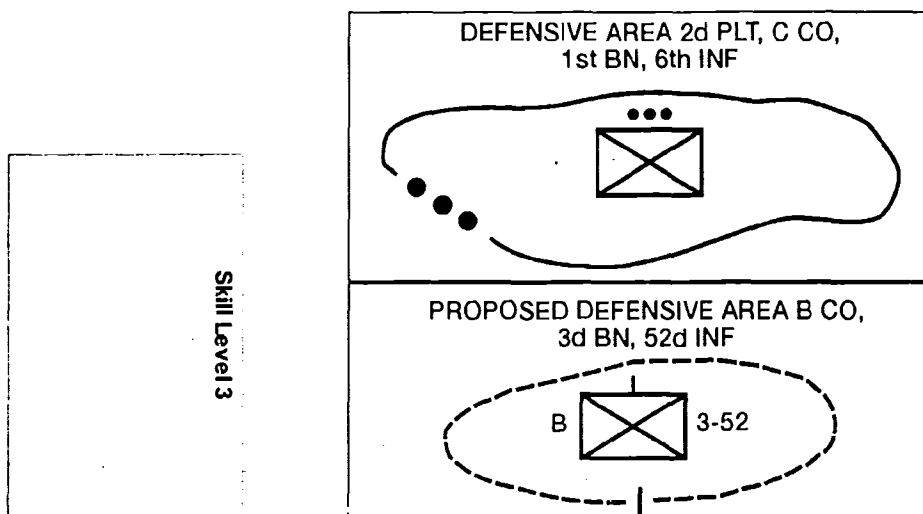

Figure 071-332-5000-18. Defensive Area
k. **Defended areas.** If an area is occupied and the defense of the area is prepared, a line (including the size symbol of the defending unit) encloses the area, and the closed side of the symbol is oriented toward the most likely enemy threat. If desired, the military symbols of the unit may be entered in the center of the enclosed area. A defensive area for 2d Platoon, C Company, 1st Battalion, 6th Infantry, and a proposed defensive area for B Company, 3d Battalion, 52d Infantry, are shown in figure 071-332-5000-18.
(1) **Line of departure (LD).** The LD is a control measure to coordinate the advance of an attacking unit (figure 071-332-5000-19). The LD should be—